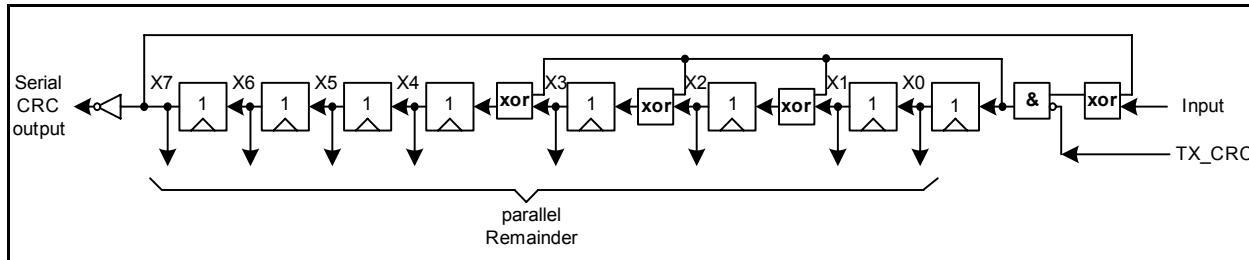

Figure 20 Fast CRC Polynomial Division Circuit
- Generator-Polynomial: $X^{16}+X^4+X^3+X^2+1$, but for the CRC generation the fast-CRC generation circuit is used (see Figure 20)